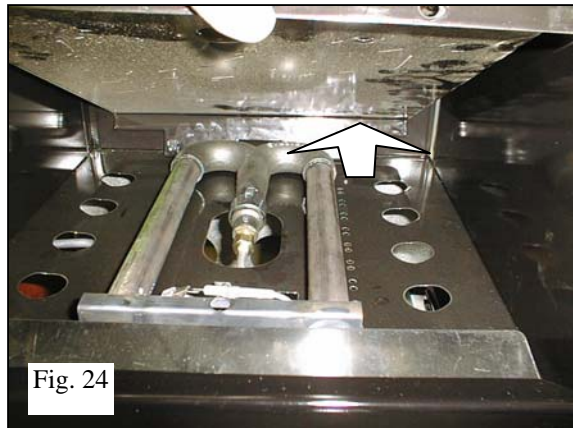

Fig. 24
**Oven orifice** : Remove the base, **CAUTION**: when refitting place the base underneath the groove on the fascia (Figures 24 and 25).